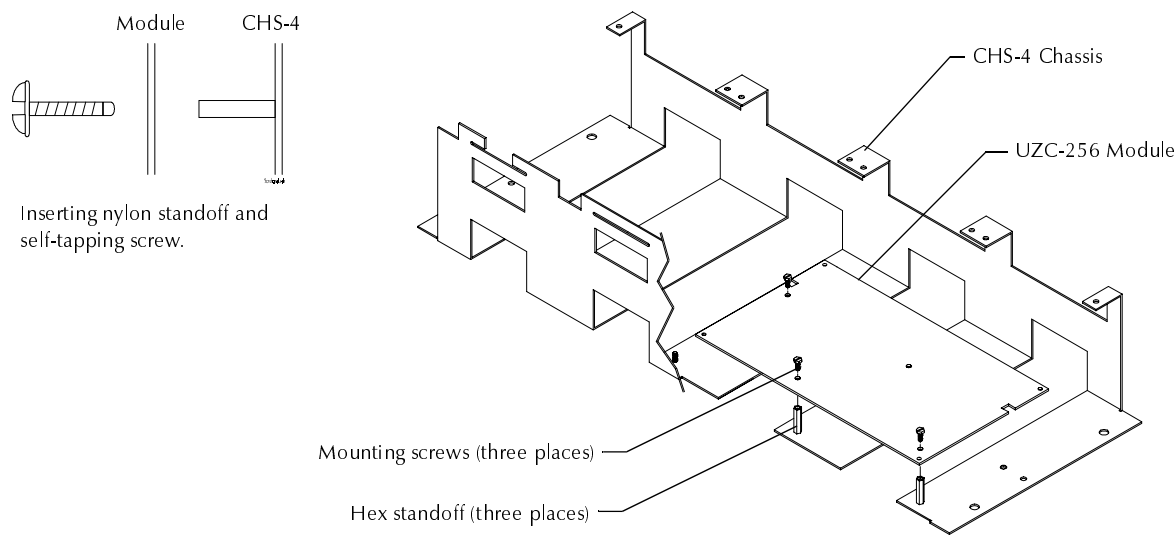

Figure 2-13 Mounting a UZY-256 to a CHS-4
1. Thread the supplied three hex standoffs to the mounting studs on the CHS-4 chassis (Figure 2-13).
2. Place the module onto the CHS-4 as shown in Figure 2-13; then, insert and tighten the mounting screws.